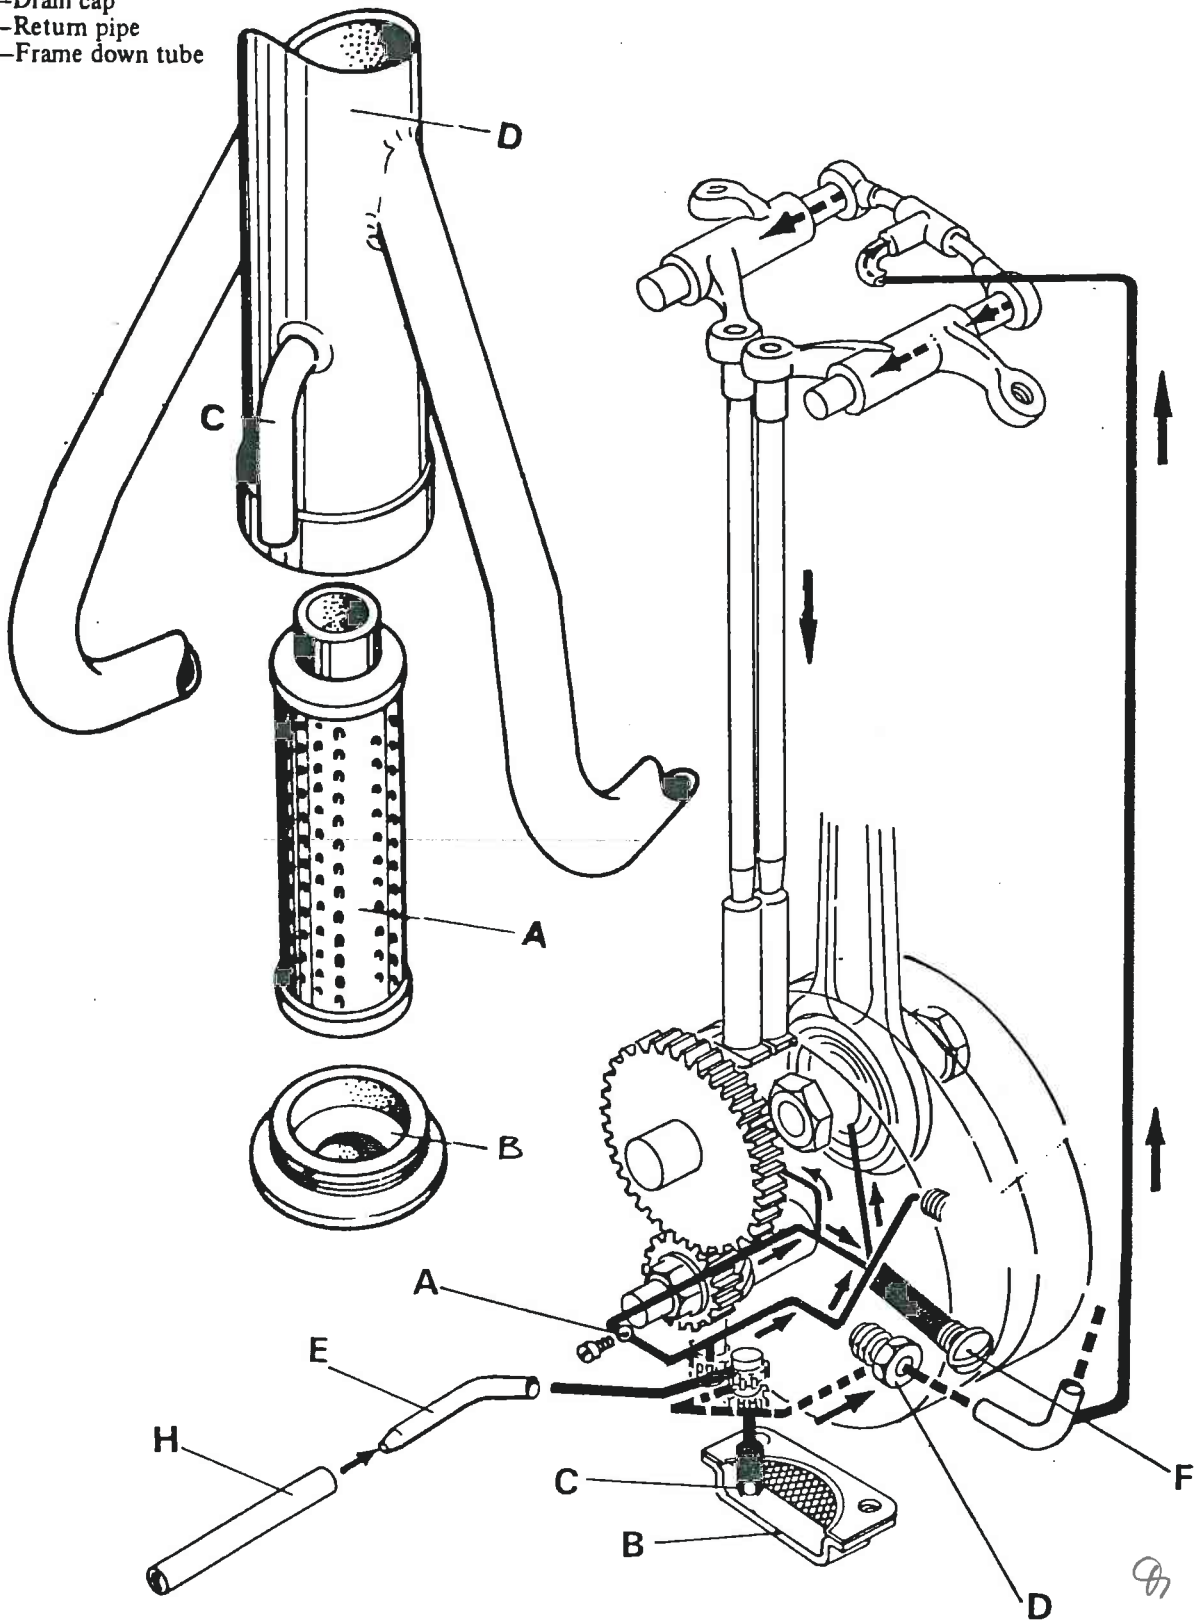

Fig. 2 General engine lubrication diagram.
- 6 Ensure that non-return valves A and C Fig. 2 page 8 are operating correctly. (This will only be necessary if the crankcase fills up with oil when the machine has been left standing for some time).
Oil changing may be accomplished by removing drain cap B, Fig. 1 and remove connecting tube H. Fig. 2.